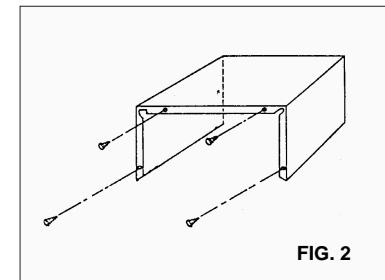

FIG. 2
1. To remove cabinet (Refer to Fig. 2)